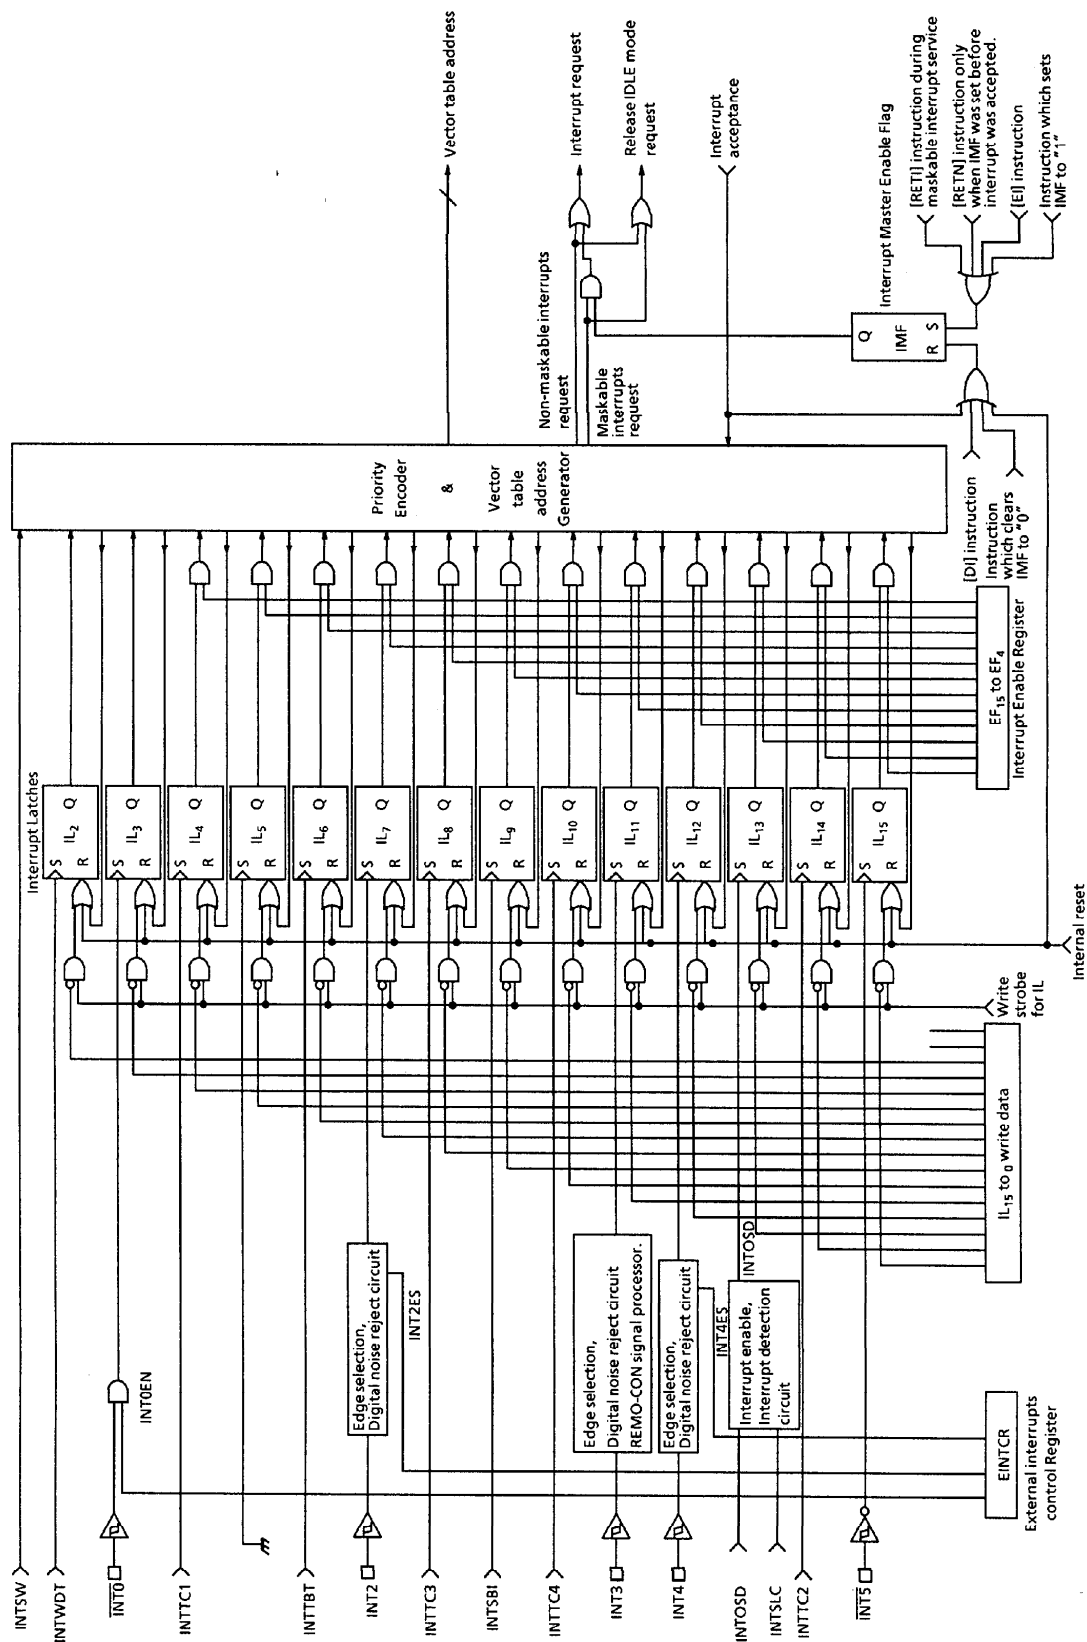

Figure 1-20. Interrupt Controller Block Diagram
Interrupt latches (IL) that hold the interrupt requests are provided for interrupt sources. Each interrupt vector is independent. The interrupt latch is set to "1" when an interrupt request is generated and requests the CPU to accept the interrupt. The acceptance of maskable interrupts can be selectively enabled and disabled by the program using the interrupt master enable flag (IMF) and the individual interrupt enable flags (EF). When two or more interrupts are generated simultaneously, the interrupt is accepted in the highest priority order as determined by the hardware. Figure 1-20 shows the interrupt controller.